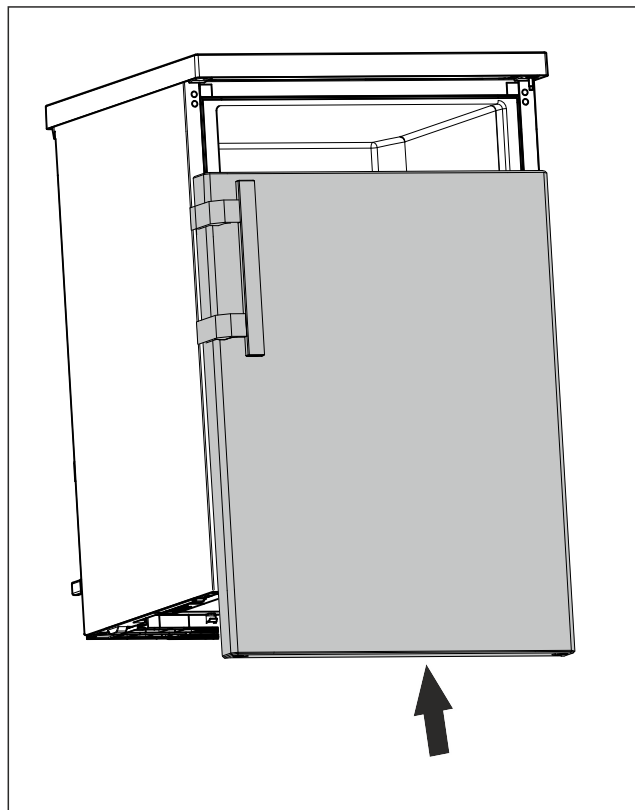

Fig. 20
- ▶ Slide the door onto the upper bolt in closed status. (see Fig. 20)